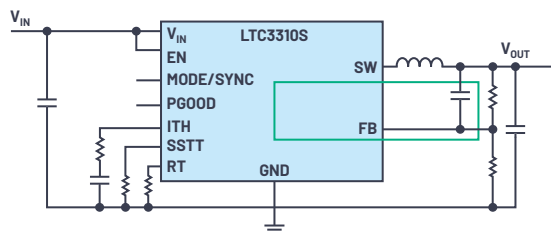

Figure 1. An example of a switching regulator that uses a control loop (shown in green) to regulate its output voltage.
Figure 1 shows a typical switching regulator with a step-down (buck) topology. It converts a higher input voltage to a lower output voltage. The goal is to regulate the output voltage, V_{OUT} , as precisely as possible. For this, a control loop is integrated into the circuit through the feedback (FB) pin. It detects voltage changes at V_{OUT} . The control loop should respond quickly so that V_{OUT} is always re-regulated as accurately as possible. The output voltage must be readjusted whenever the input voltage or the load current changes.